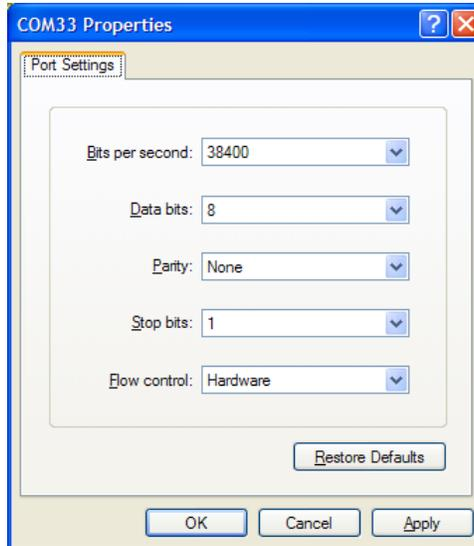

Figure 5-21. Default BeeStack RS-232 Settings
- Using Hyperterminal, set up a Virtual COM Port for each of the two nodes. Figure 5-21 shows the correct COM Port settings to run the Wireless UART application.